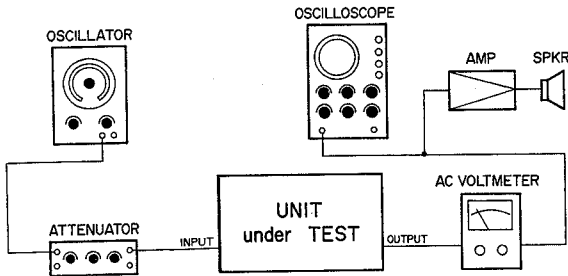

Fig. 7-3
- a. Connect the measuring instruments as shown in Fig. 7-3.
- 1) Connect the measuring instruments as shown in Fig. 7-3.
1) Connect the measuring instruments as shown in Fig. 7-3.